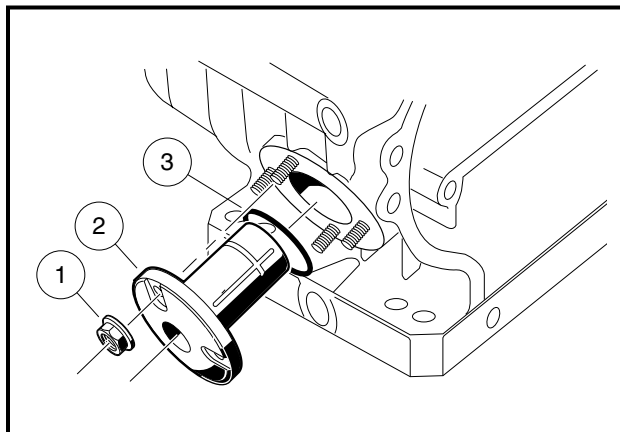

Figure 3-66 Counterbalance Guide Shaft and O-Ring
1. Remove the four nuts (1) and pull out the counterbalance guide shaft (2) and the O-ring (3) (Figure 3-66, Page 3-32).